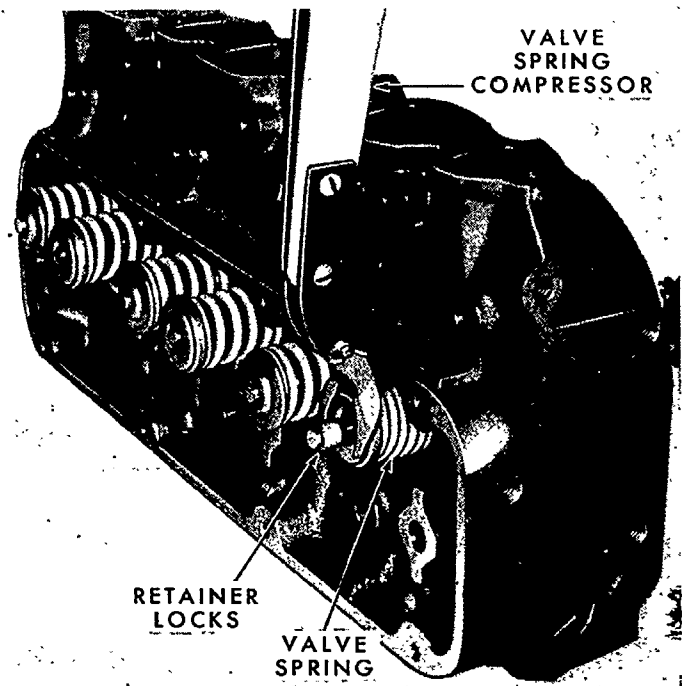
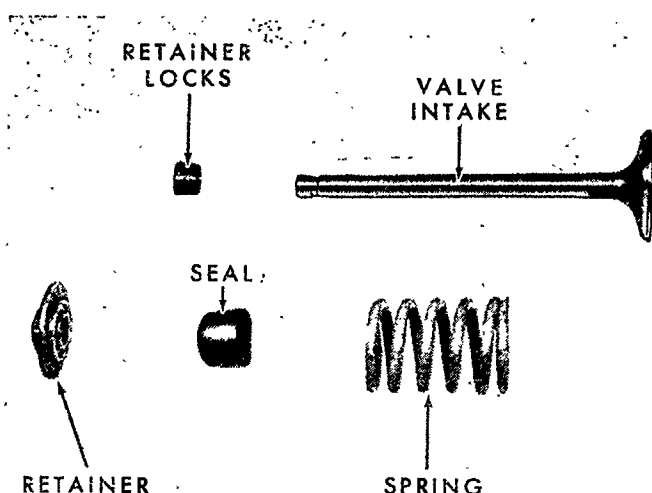

Figure 10
Figure 11
3. Position the valve spring compressor over the valve and spring, as shown in Figure 10, and compress the spring. Intake Valves: Remove the retainer locks, spring retainer, spring, and valve stem seal. The parts are shown in Figure 11.